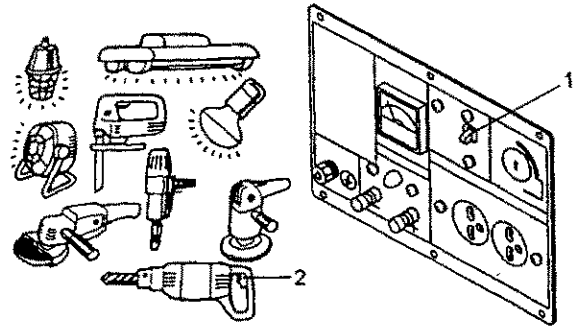

Fig. 9.4.3-3
- ① Turn breaker 1 of the diesel generator off. If loads are connected, turn power switch 2 of all loads off. (Fig. 9.4.3-3)
- ② Set the governor lever 3 to RUN. (Fig. 9.4.3-4)
- ③ Insert the starter key 5 into key switch 6 and turn it to the START position. (Fig. 9.4.3-5)